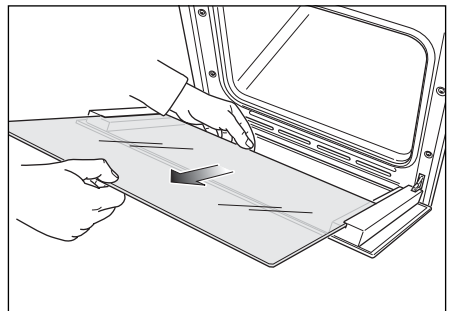

Fig.44d
- Gently pull out the inner pane of glass (Fig. 44d).